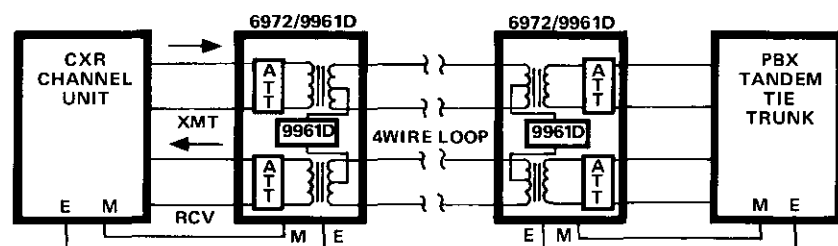

figure 3. Typical application of 6972 equipped with 9961D
2.09 The 9961D Signaling Converter DX subassembly, when mounted on the 6972 module, provides extended E-and-M-lead (DX) signaling, i.e., conversion from E-and-M-lead signaling to DX signaling, over a 4wire facility (figure 3). Maximum range of the 9961D is 5000 ohms loop resistance. The 9961D may be switch-optional for either DX1 or DX2 operation. In the DX1 mode, M-lead signals are input to the module and E-lead signals are output.